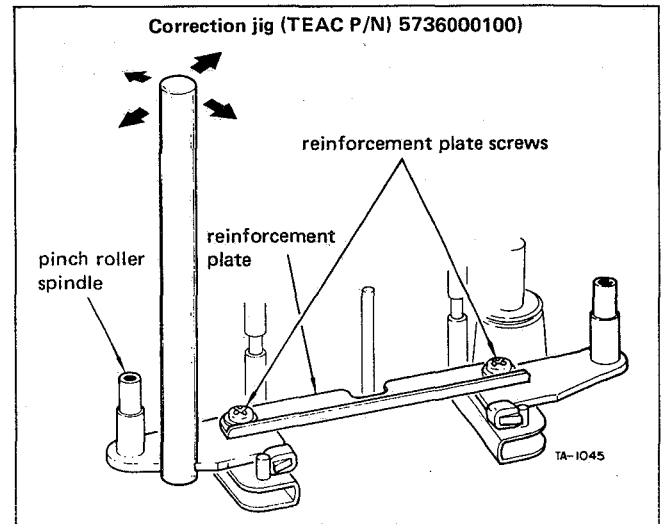

Fig. 2-21 Correction of pinch roller/capstan non-parallelism
12. If not parallel, loosen the two screws mounting the reinforcement plate then adjust using the correction jig (TEAC P/N 5736000100) as shown in Fig. 2-21.